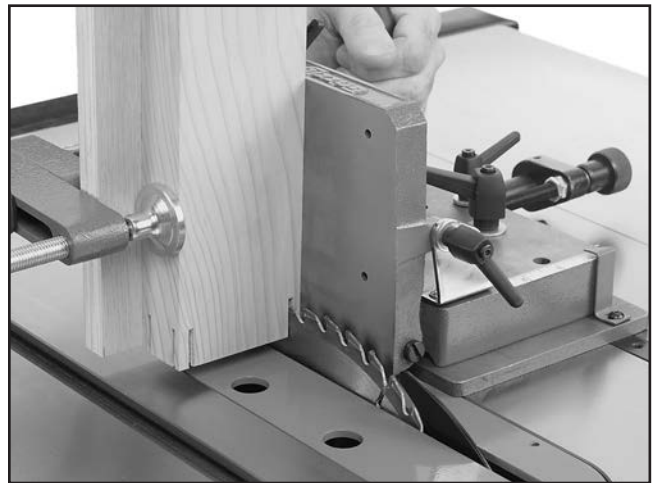

Figure 30. Making third and fourth cosmetic cheek cuts.
12. Position workpiece for third and fourth cosmetic cheek cuts, as shown in **Figure 30**, and repeat **Steps 5–8** for each cut.